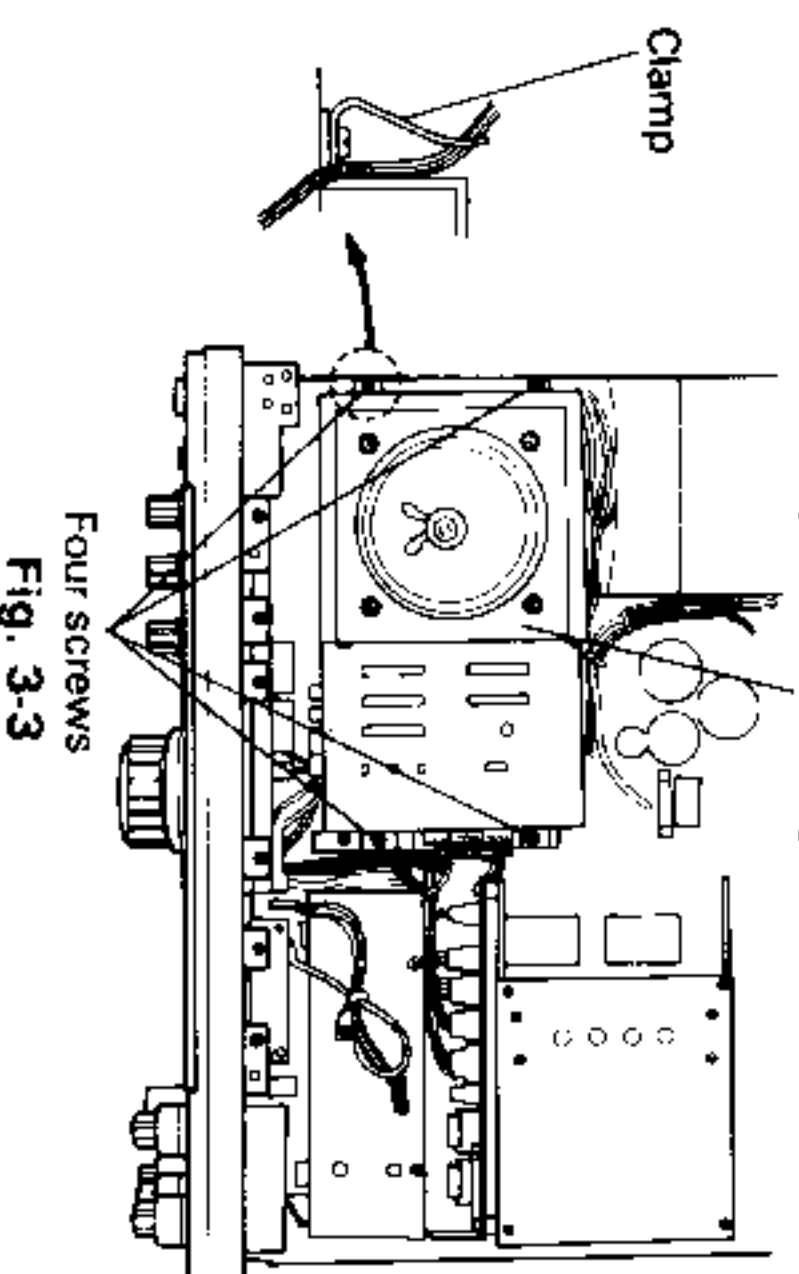

Fig. 3-3
2. Remove the four screws that secure the speaker mounting bracket to the chassis and swing the bracket up towards the AT (antenna tuner) unit. Be especially careful of the wiring harness. Don't stretch the cable harness. (Fig. 3-3, Fig. 3-4)